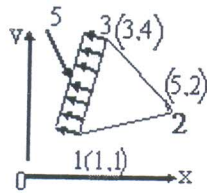

Fig. 2
b) Using the isoparametric element, find the Jacobian and inverse of Jacobian matrix for the element shown in Fig.2, 3(a) & 3(b) for the following cases.